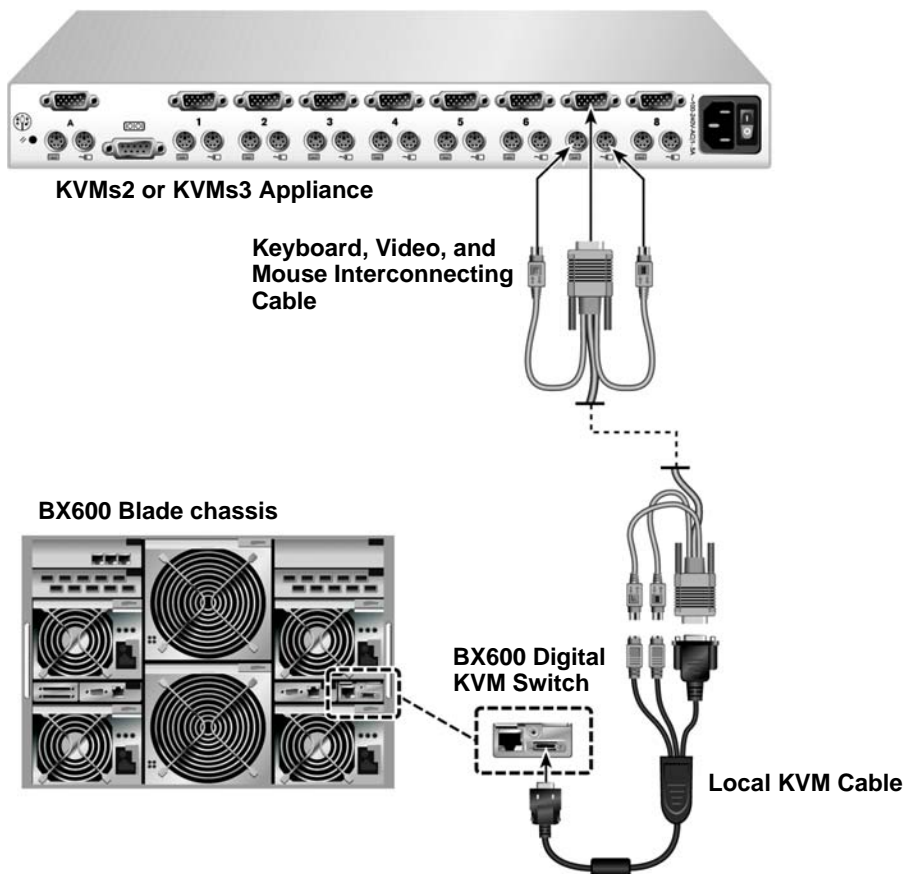

Figure 4: BX600 Digital KVM Switch tiered from a KVMs2-1602 or KVMs2-0801
- ▶ Connect the Local KVM cable to the KVM port of the BX600 Digital KVM Switch (Figure 4).